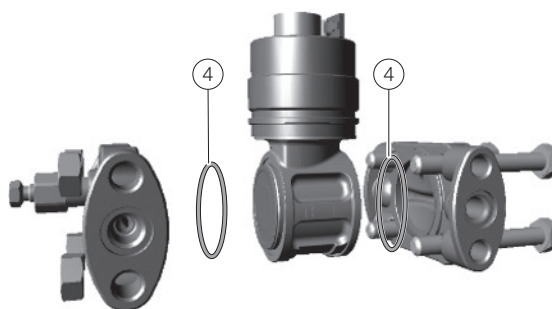

Figure 8: Process flanges
10. After each dismounting, the O-rings (Figure 8, Pos. ④) must be replaced.
12. Before the transmitter is switched on again, place the DIP switches 1 and 2 (Figure 8, Pos. ⑤) in the upper position. Connect the transmitter to the energy supply and wait for 10 seconds; then return the DIP switches 1 and 2 to the lower position.